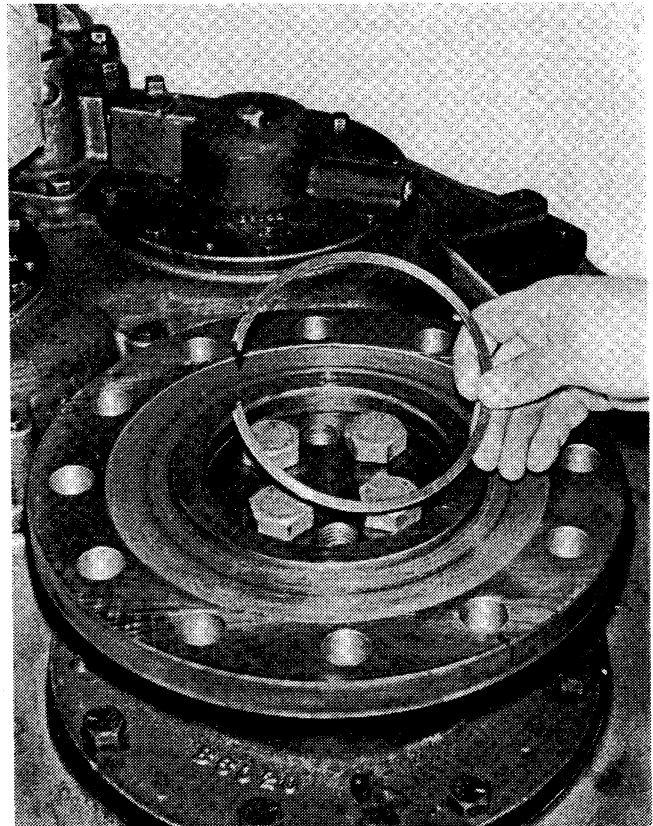

Figure 6-22. Snap Ring Removed from Bore of Output Flange.
2. Remove the snap ring from the bore of the output flange. See Figure 6-22.